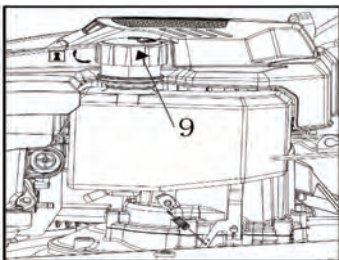

Fig. 6
3. Unscrew and remove the fuel tank cap (9) (Fig. 6).